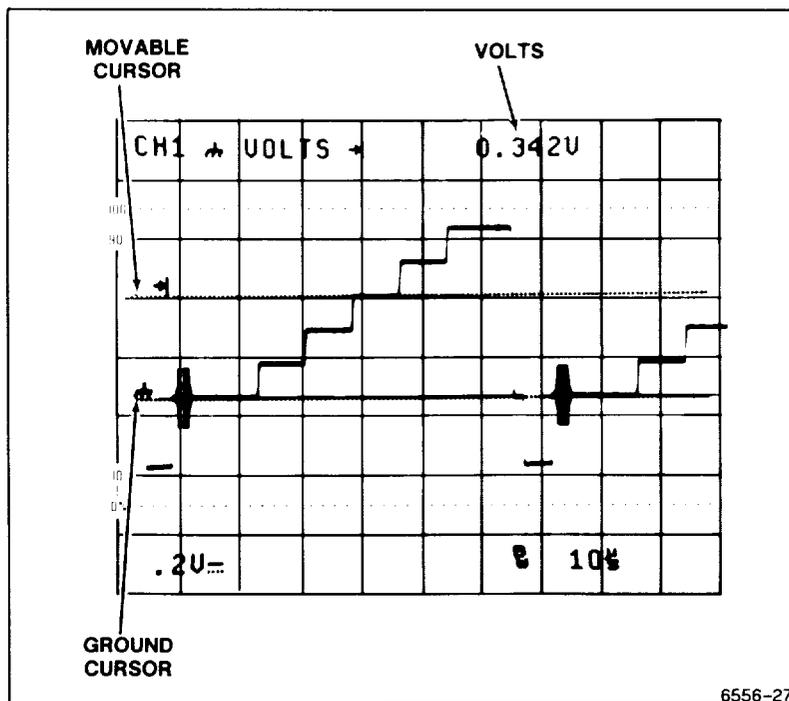

Figure 5-4. Voltage measurement.
4. Position the independent cursor using the \rightarrow control to the measurement point on the waveform and read out the value of the cursor position (shown in Figure 5-4). (The \leftarrow OR DELAY control has no effect.)
The test signal used for illustration purposes in Figure 5-4 is a video test signal. For triggering on a video waveform, select TV LINE Trigger COUPLING and negative (\neg) Trigger SLOPE; for other signal types, no change of COUPLING or SLOPE is required.